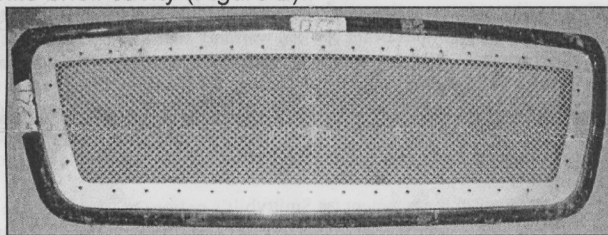

Figure 2 – Front View of positioning Grille
7. Position the Grille onto grille shell cavity (Figure 2).